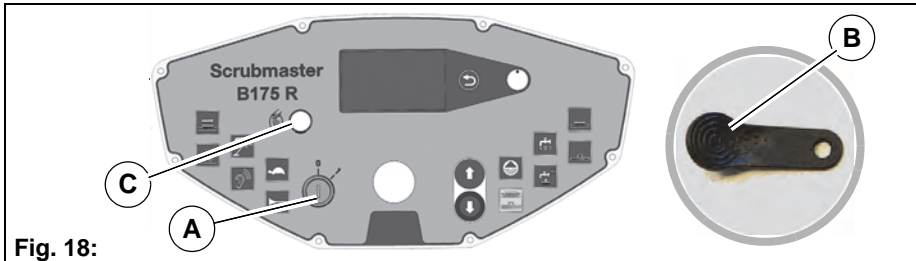

Fig. 18:
- Turn the machine on with the key switch **Fig. 18-A**.
- Press the I-Button Key **Fig. 18-A** against the I-Button Reader **Fig. 18-B** for one to two seconds.